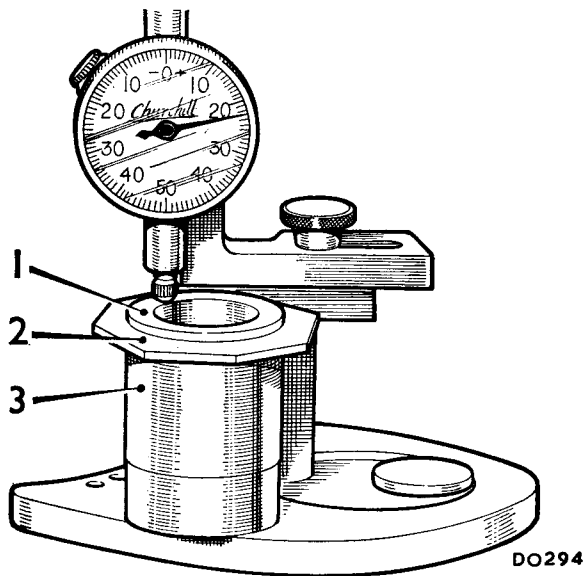

Fig. Aa.18
- (35) Remove the converter housing and withdraw the adaptor assembly 18G 1089 A, wax washer, and 18G 1089/1. Substitute this complete assembly for the input gear on the surface plate (see Fig. Aa.18).
- (36) Use the dial test indicator gauge, Service tool 18G 191, and measure the thickness of this assembly (see Fig. Aa.18). The mean reading obtained indicates the total thickness of shims required to eliminate end-float. To this figure add shims to the value of $\cdot001$ to $\cdot003$ in. ($\cdot025$ to $\cdot076$ mm.) to give the required input bearing preload.